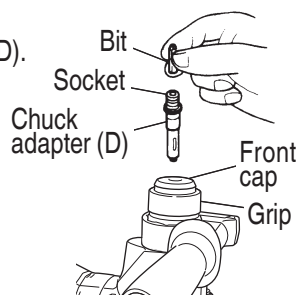

Fig. 22
4. When driving machine screws (Fig. 22)
5. When driving wood screws (Fig. 22)